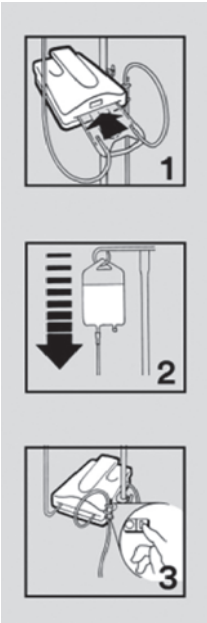

Figure 4
- Slide the cassette into the slot in the warming unit. The cassette can only fit into the device one way (see Figure 4, #1).
- Prime the warming set. For more information about priming the set, refer to instructions provided with the warming sets (see Figure 4, #2).
- Plug the power cord into an appropriate outlet. Turn the unit ON (see Figure 4, #3). In a few seconds the alphanumeric display will illuminate. It takes less than two minutes to warm up to the 41°C set point temperature.